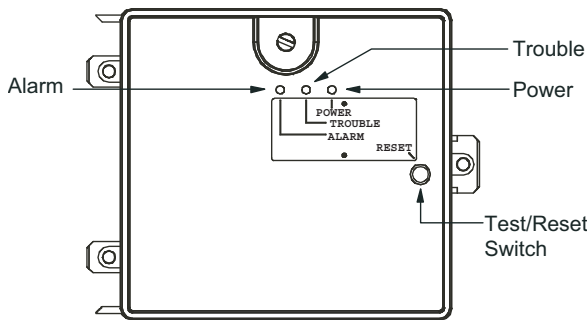

Fig. 62 — Controller Assembly
- The contacts on the controller's supervisory relay switch positions. (See Fig. 62.)